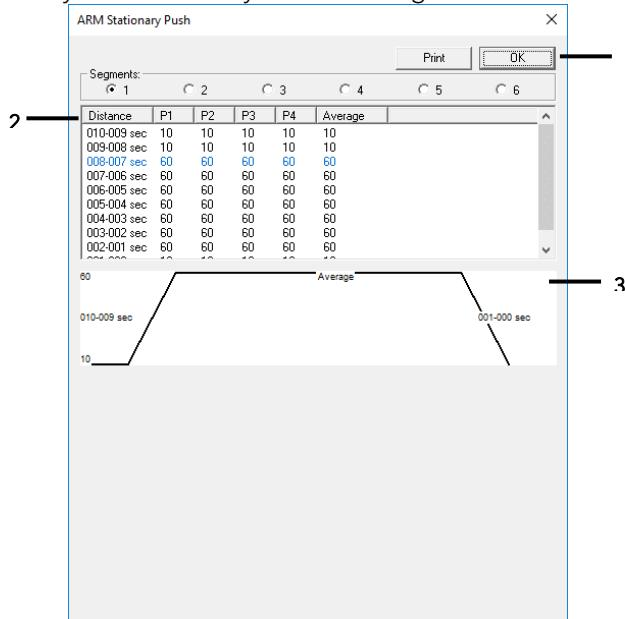

Figure 205: ARM Stationary Push Summary Window
c. Refer to ARM Stationary Push Summary window in Figure 205.